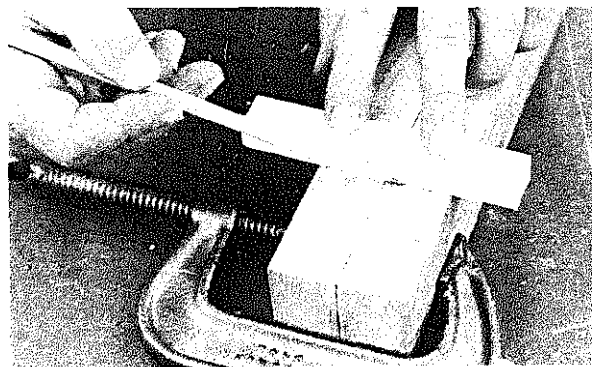

Fig. 4-59 Marking the width of a cutout on duplicate parts
3. Marking the width of a cutout on duplicate parts is shown in figure 4-59. The material to be used to fit into the cutouts is placed on top of the clamped duplicate parts. Each edge, representing the width, is used as the guide for marking the necessary layout lines.